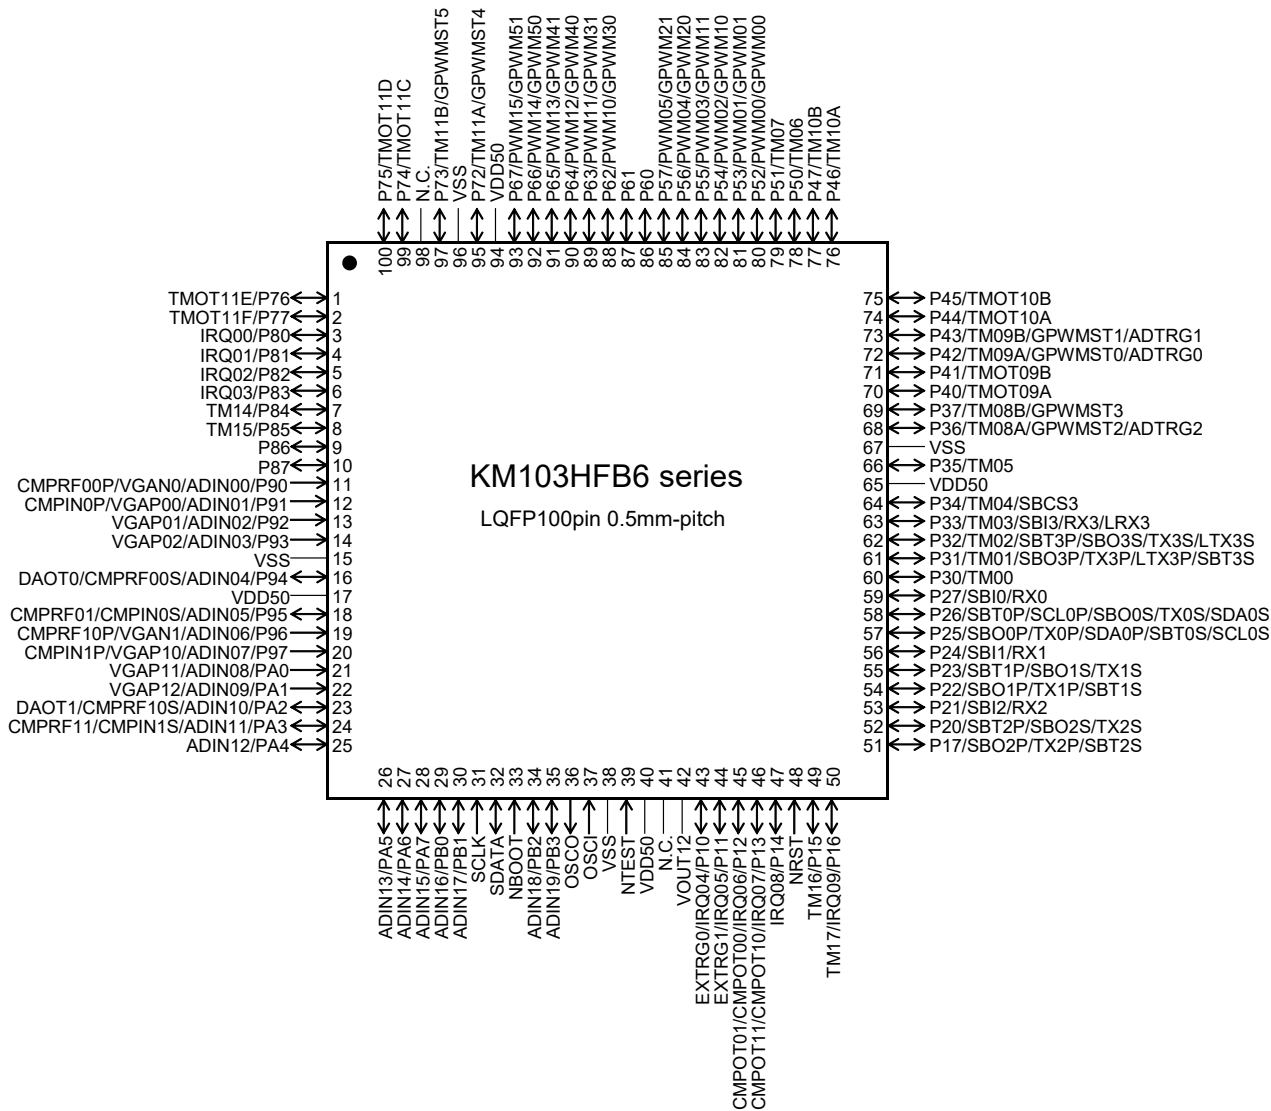

Figure 1.4-2 Pin Configuration Figure of KM103HFB6 Series (100 pins)
- Pin Configuration Figure of KM103HFB6 Series (100 pins) (Figure 1.4-2 )
Figure 1.4-2 shows pin configuration figure of KM103HFB6 series (100 pins).